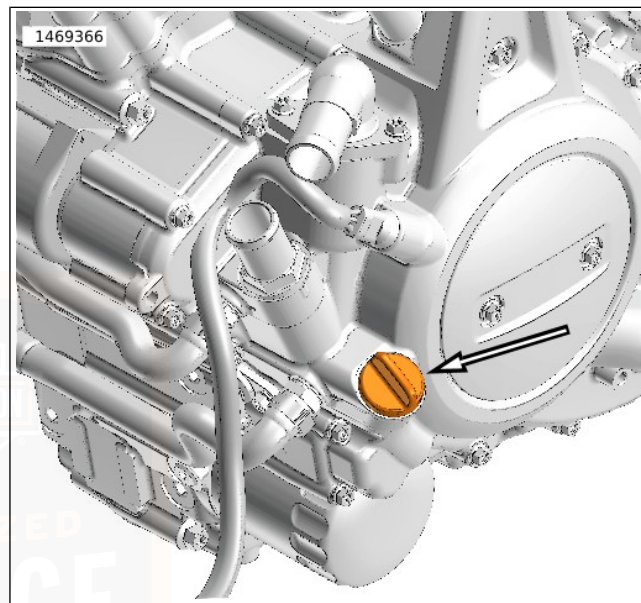

Figure 55. Engine Oil Filler Plug/Dipstick
- a. Figure 55 Remove engine oil dipstick.